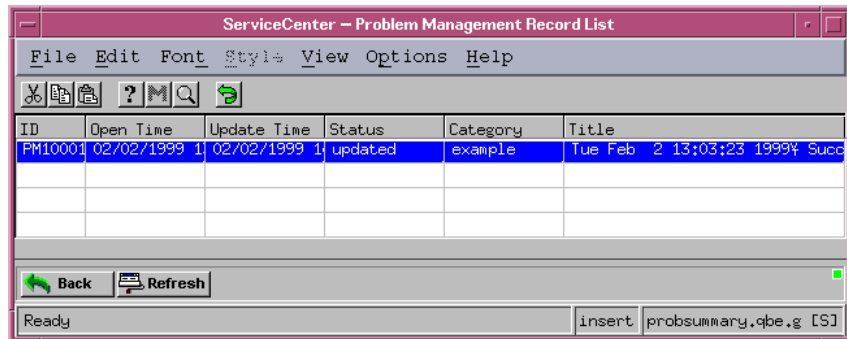
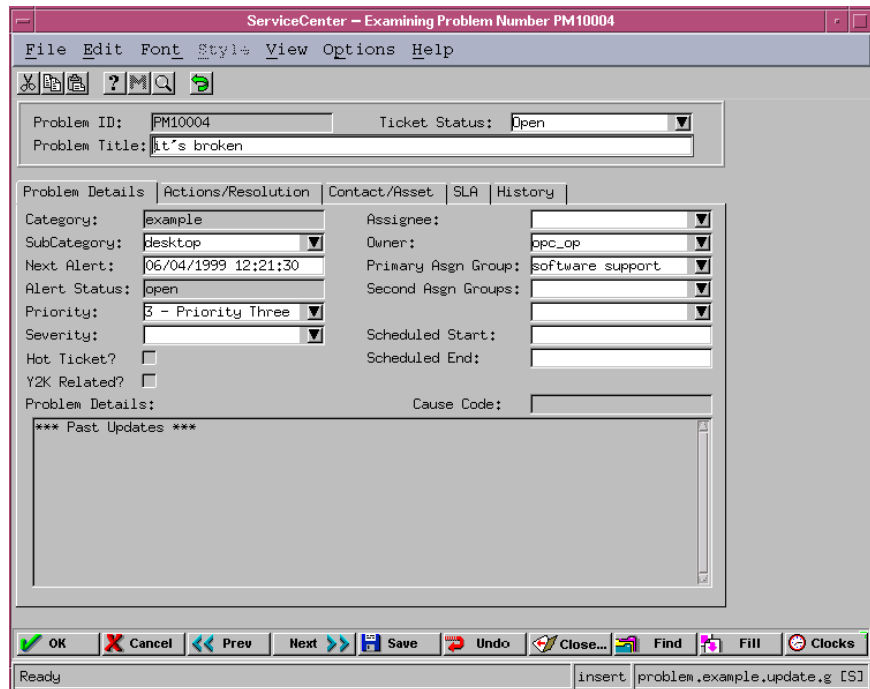

Figure 4-3 Problem Management Record List
Figure 4-4 Problem Detail
The Problem List menu option provides a list of problems that are currently open in ServiceCenter for the selected object. When this option is selected, a problem list is displayed (Figure 4-3). Use the **Options** menu to display a list of operations to perform on the problems. Double-click an item in the problem list to display the Problem Detail window (Figure 4-4).
1. Double-click the desired problem in the list. The Problem Detail window is displayed (Figure 4-4).